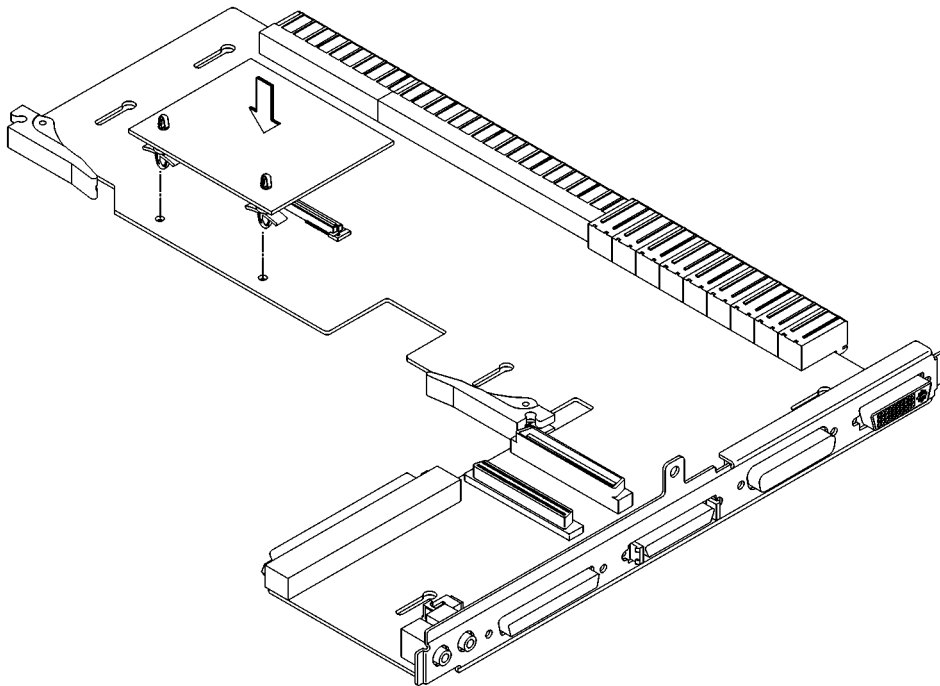

Figure 44 **Installing the EGRAM Module**
- 5 Install the standoffs into the EGRAM module, as shown in Figure 44. Push the standoffs into the holes on the module until the clips fully engage with the board.
- 6 Align the connector on the EGRAM module with the connector on the I/O board, while aligning the standoffs with the holes in the I/O board. See Figure 44.